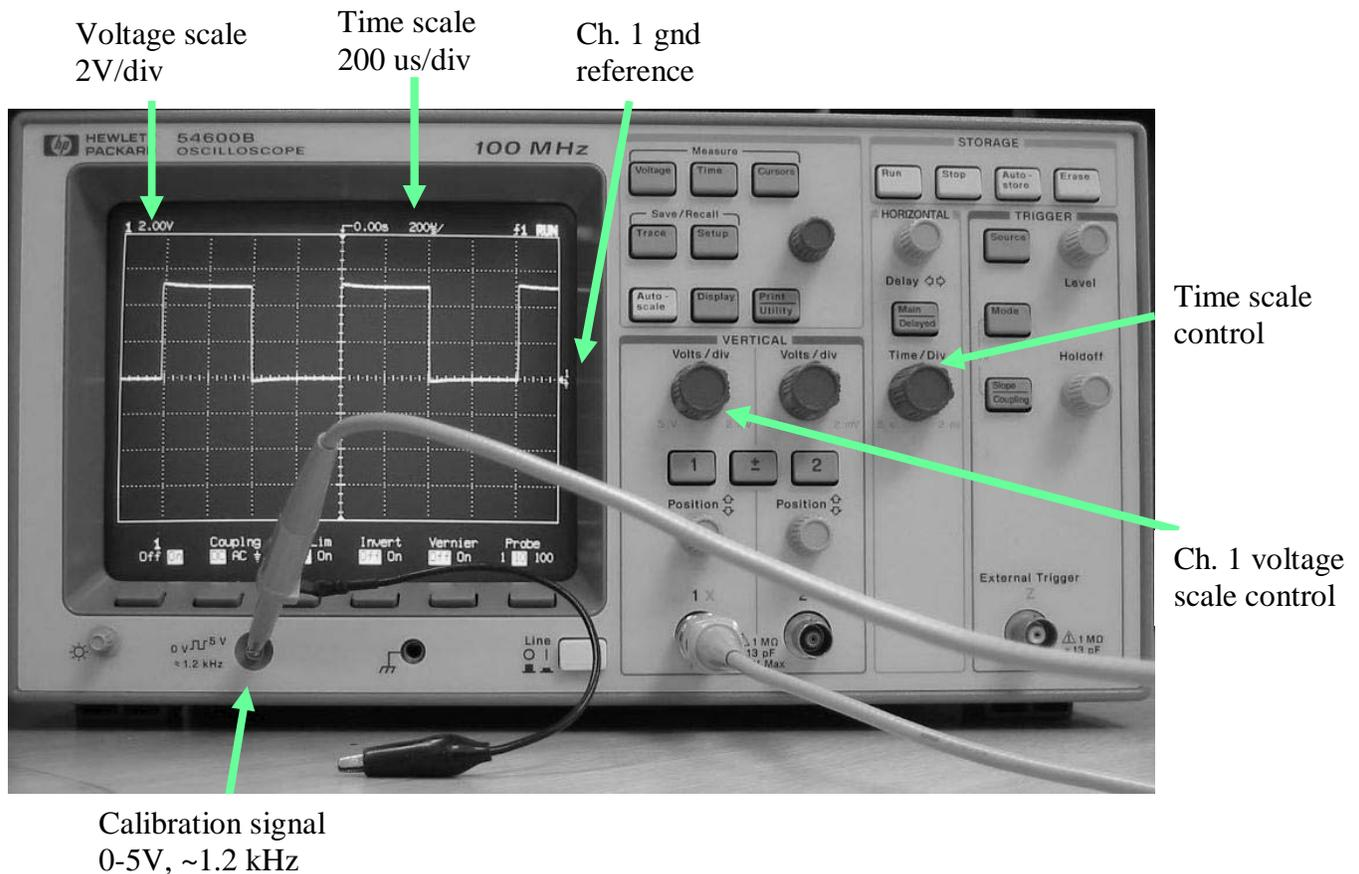

Figure 2. Measuring a square wave with the HP 54600B oscilloscope
Figure 2 shows the measurement of the scope’s 0-5V ‘calibration’ signal. The Time/Div knob is used to adjust the scale of the time axis, which is the horizontal axis on the
**Trigger Slope:** The slope setting determines if the trigger occurs on a rising or falling edge. In Figure 2, the scope is set to trigger on a rising edge, as shown by the up-arrow at the top-right corner of the display.
**Trigger Coupling:** Just as an input signal can be AC or DC coupled, the trigger signal can also be AC or DC coupled. (A DC coupled signal retains the DC offset, while an AC coupled signal has the DC component filtered out.) In addition there are special settings for rejecting low frequencies (LF), high frequencies (HF) and rejecting noise.